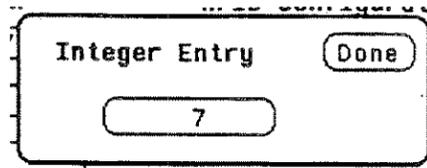

Figure 5-15. Integer Entry Pop-Up Menu
1. Select the External I/O Port Configuration menu and place the cursor in the field directly to the right of **HP-IB Address:**. Press **SELECT** and an Integer Entry pop-up appears as shown in figure 5-15.